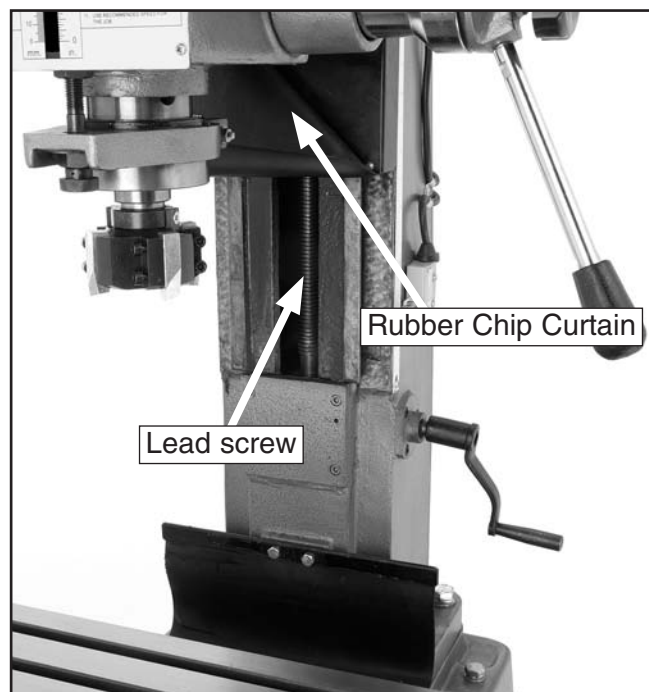

Figure 30. Headstock lead screw access and lubrication.
3. Hold the rubber chip curtain (**Figure 30**) away from the lead screw access port.